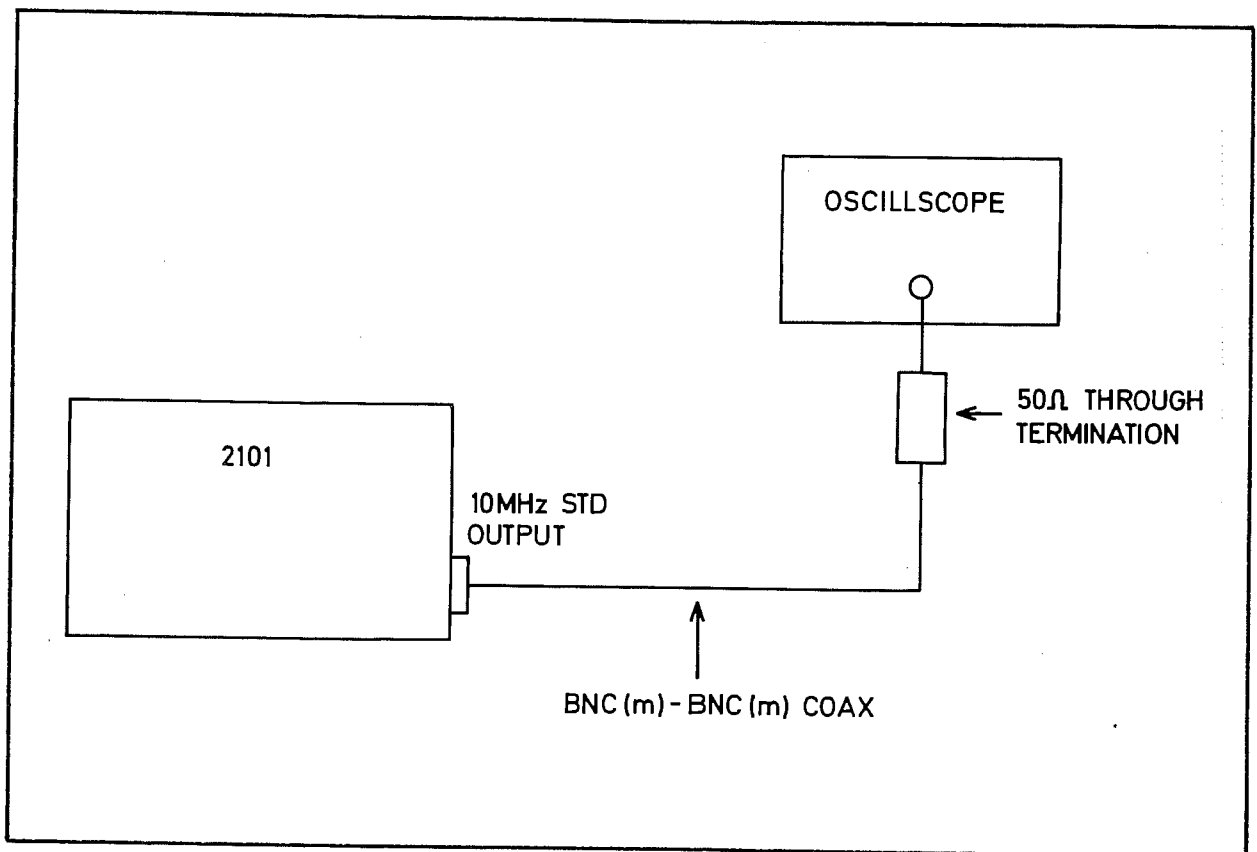

Fig. 7.25 Connection for 10 MHz Standard Output Level PVP
89 (1) Connect the test equipment as shown in Fig. 7.25.